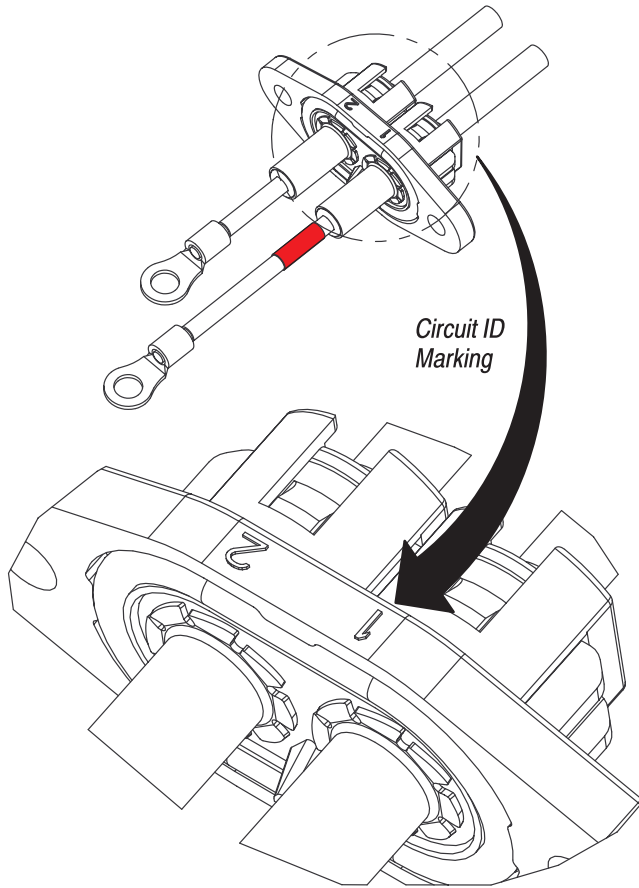

Figure 2
1. Identify the circuit ID markings on the APT housing as shown in Figure 2.